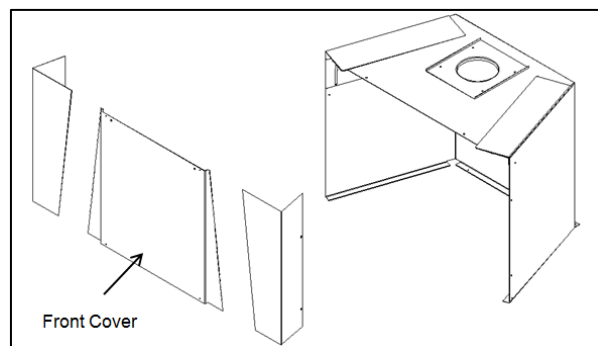

Figure 15: Circulating Chamber Front Cover
- Remove the front cover of the unit and cut along the perforated lines to later use as the bottom cover within the masonry fireplace (Figure 15).